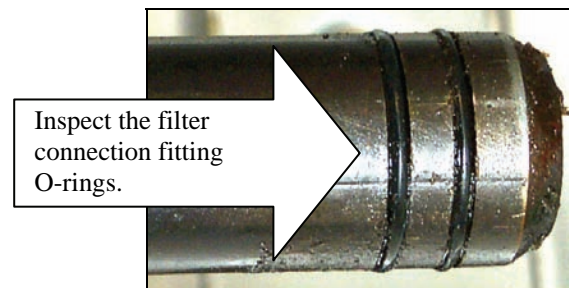

Figure 7
- Inspect the filter pan connection fitting to ensure that both O-rings are present and in good condition. (See Figure 7)